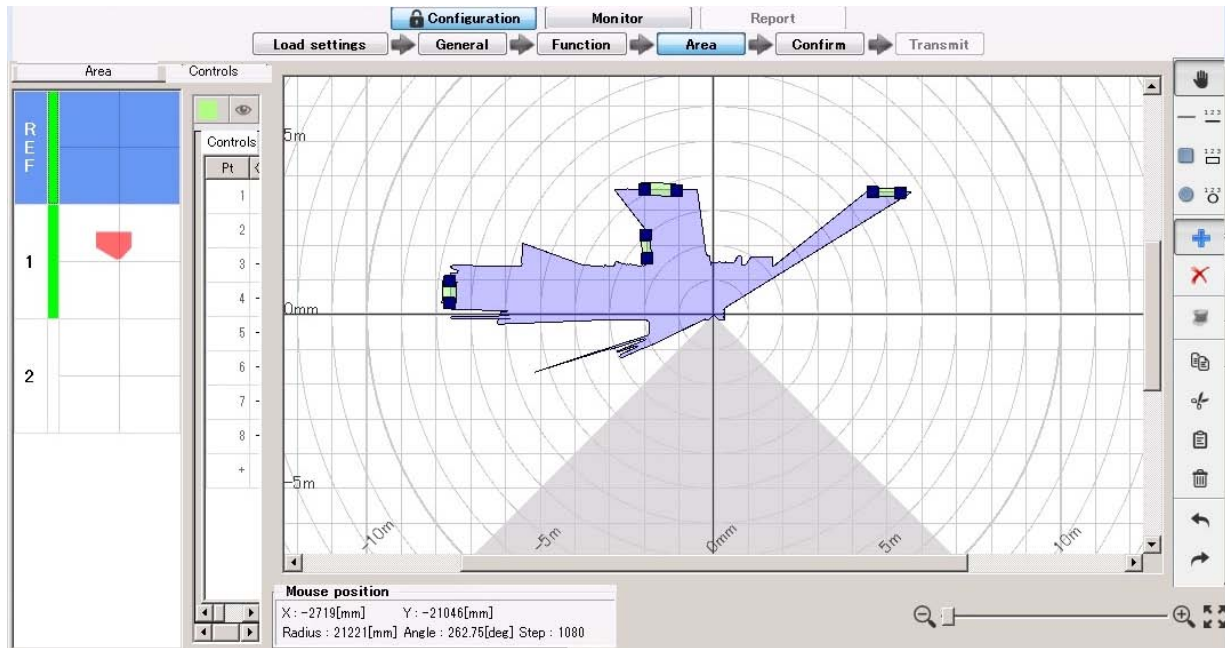

Figure 7-49 Reference region configuration example
- Main screen displays the configuration for reference region (Figure 7-49). First area on the preview indicated by “REF” represents the reference area.
For example, to monitor the sensor's displacement by referring the background, choose the line drawing tool and draw a line segment over the background by mouse drag and drop. Reference region with the  $\pm$ tolerance is generated on that location (Figure 7-49).